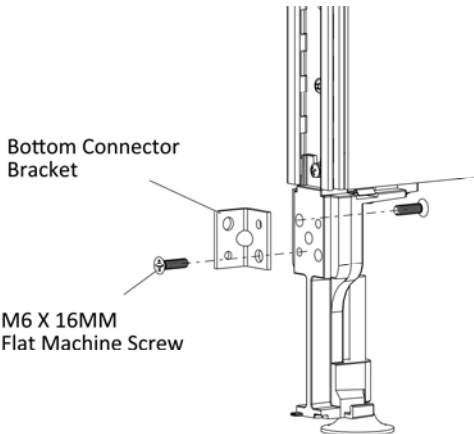

Figure 5
- Securely fasten bottom corner bracket to panel leg with two M6 X 16MM Flat Machine Screws, (Figure 5).